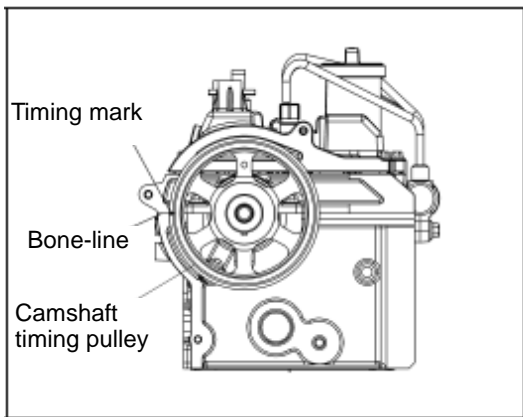

Fig. 4-1-42 Installing the camshaft timing pulley
(1) Install the woodruff key to the exhaust camshaft, install the timing pulley to the exhaust camshaft and tighten the fastening bolt washer component to the required torque. The camshaft timing pulley should be pressed and installed to the right position without deflection.
(2) Adjust the scale mark on camshaft timing pulley to align it with the joint (at exhaust side) between cylinder head and camshaft bearing cap. See Fig. 4-1-42.